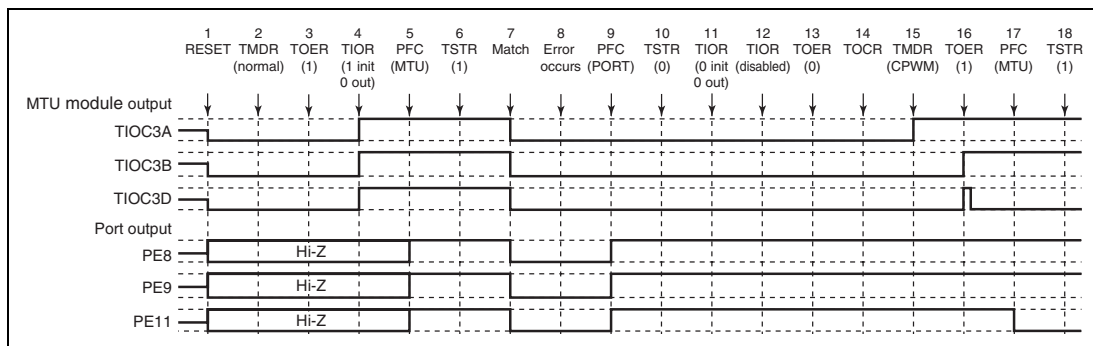

**Figure 11.90 Error Occurrence in Normal Mode,
**Operation when Error Occurs during Normal Mode Operation, and Operation is Restarted in Reset-Synchronous PWM Mode:** Figure 11.90 shows an explanatory diagram of the case where an error occurs in normal mode and operation is restarted in reset-synchronous PWM mode after re-setting.